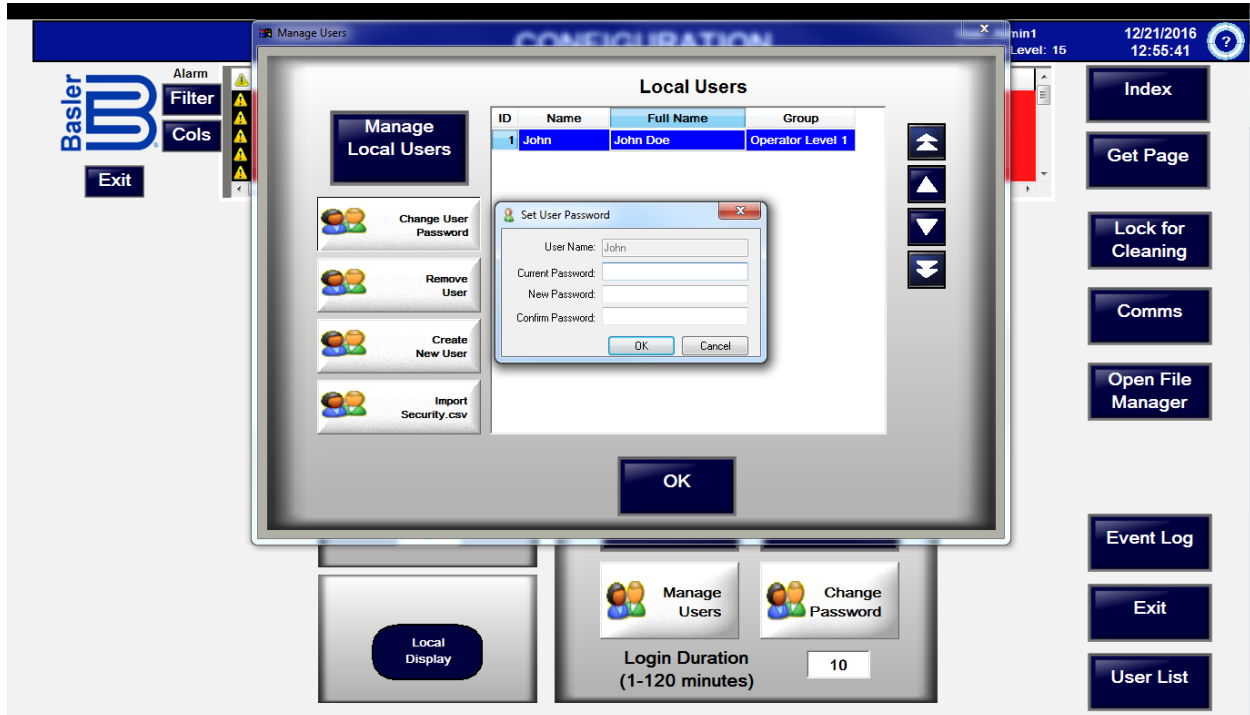

Figure 5-1. Changing a Password
2. Touch the Change User Password button. The Set User Password dialog box appears (Figure 5-1).